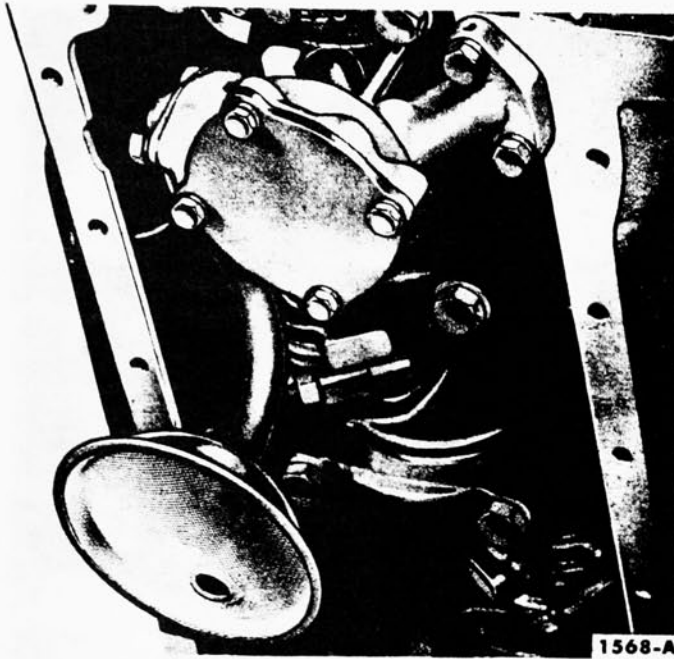

FIG. 50—Oil Pump and Inlet Tube Installed
3. Position a new gasket on the pump housing and install the pump and shaft as an assembly (Fig. 50).